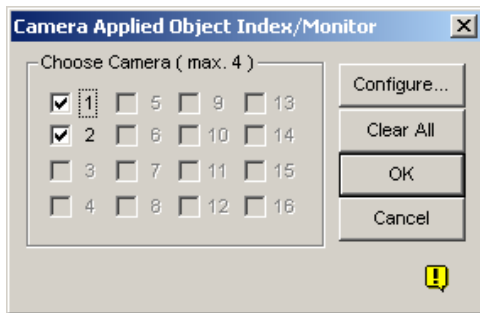

Figure 2-8 Camera Applied Object Index/Monitor
1. Click the Configure button, and then select Object Index/Monitor Setup to display the Camera Applied Object Index/Monitor window. (Refer to Object Index, Figure 2-8.)